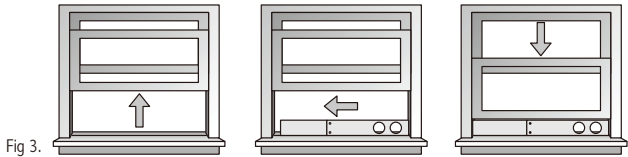

Fig 2.
B. Attach Hose Fixture : Fig 2.